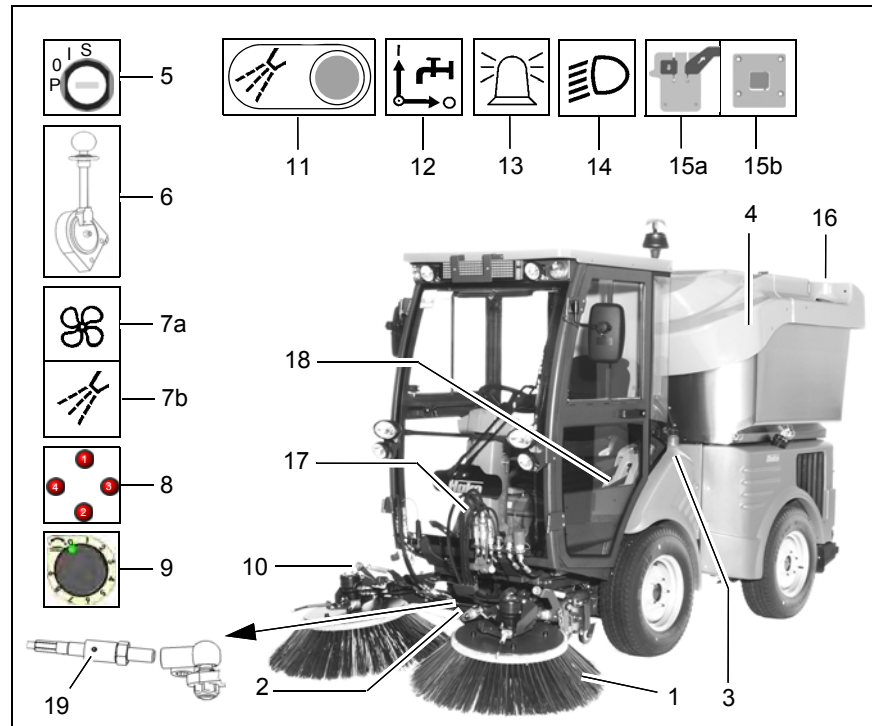

Fig.25
- Check the spray nozzles on the circular brushes (Fig. 25/1) and on the vacuum nozzle (Fig. 25/2).
- Top up the solution tank (Fig. 25/3). The filling volume is approx. 170 liters.
- Check the strainer on the solution tank (Fig. 25/3).
- Top up the dirt hopper (Fig. 25/4) with approx. 100 liters of circulation water (water level approx. 10 cm above floor flap).
1. Start up the vehicle (Fig. 25/5) and drive to the job location.
2. Set the speed adjustment lever (Fig. 25/6) to the preferred speed
3. Switch on the suction turbine (Fig. 25/7a).
4. Lower the sweeping unit (Fig. 25/8).
5. Adjust the circular brush speed on the speed adjuster (Fig. 25/9).
6. Check the circular brush surface pressure using the thumb screws (Fig. 25/10).
- (Fig. 25/18).
8. Switch on the solution pump (Fig. 25/7b) and adjust the water flow for the spray nozzles (Fig. 25/11) in such a way that dust formation in the sweeping area is optimally prevented.
9. Open the water valve (Fig. 25/12) for moisturizing the suction pipe when necessary.
10. Switch on the flashing beacon (Fig. 25/13).
11. If necessary, switch on the driving light (Fig. 25/14).
12. Slowly push down the accelerator pedal (Fig. 25/15a) until the vehicle starts moving; the speed is increased if the pressure on the pedal is increased.
- Covers (Fig. 25/16) on the dirt hopper for the manual suction hose not correctly put in place.
- If there is a blockage in the vacuum nozzle, use the auxiliary tool (Fig. 25/17) to carefully clean the vacuum nozzle, see paragraph 2.4.8.
- The circular brushes cannot be pivoted in. Check the heavy duty spring pin (Fig. 25/19); change it, if necessary. The heavy duty spring pin is a predetermined breaking point and must not be modified!
- Check the metering and the filter elements on the recycling system (Fig. 25/19).
- Check the strainer at the solution tank (Fig. 25/3).
- Fill the dirt hopper (Fig. 25/4) with approx. 250 liters of circulation water.
2. Set the speed adjustment lever (Fig. 25/6) to the preferred speed.
3. Switch on the suction turbine (Fig. 25/7).
4. Lower the scrubber unit (Fig. 25/8).
5. Switch on the water for the scrubber unit using the rotary switch (Fig. 25/11) and adjust the water flow.
6. Adjust the scrubber speed at the speed adjuster (Fig. 25/9).
7. Preselect surface pressure or the relief of the surface pressure exerted by the scrubbers using switch (Fig. 25/10b) and turn it on and ad-
just it using the rotary switch (Fig. 25/10a).
8. Switch on the flashing beacon (Fig. 25/13).